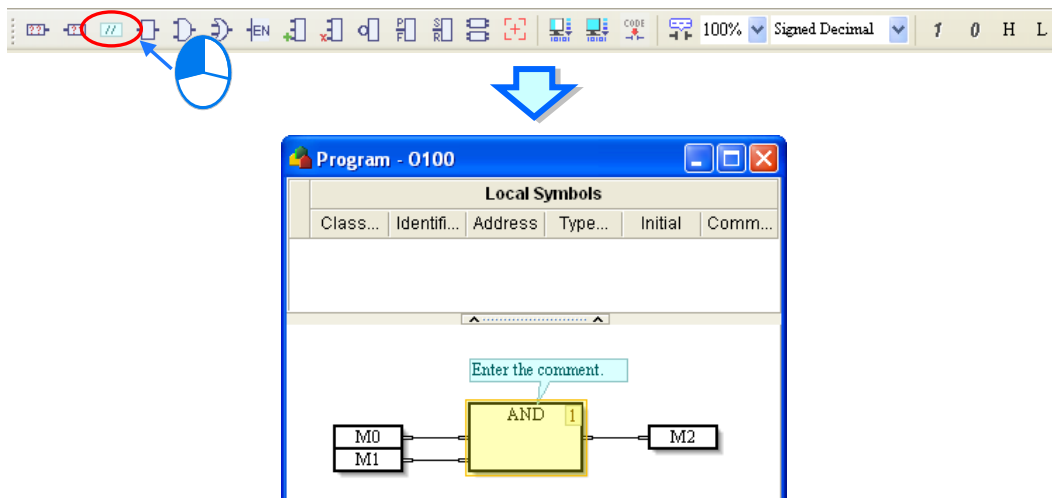

Figure 12-45 Comment binding with an object
- (2) After the users click **Comment** on the PMSOft toolbar, the comment binding with the object will appear, as shown in figure 12-45. The users can edit the comment.